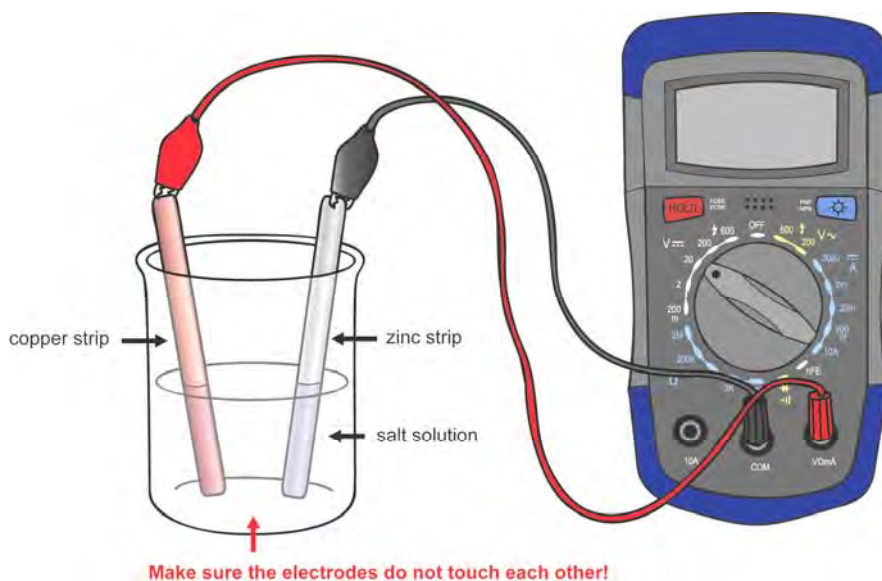

Figure 5
You will use the STELR multimeter shown in Figure 5 to measure voltage produced by this chemical cell. The cell, as you can see, consists of two different metal strips placed in a salt solution. This is like one of the earliest chemical cells ever used.
- Measure out 60 mL of fresh salt solution into the measuring cylinder. Pour it into the 100 mL beaker then insert the metal strips as shown in Figure 5.